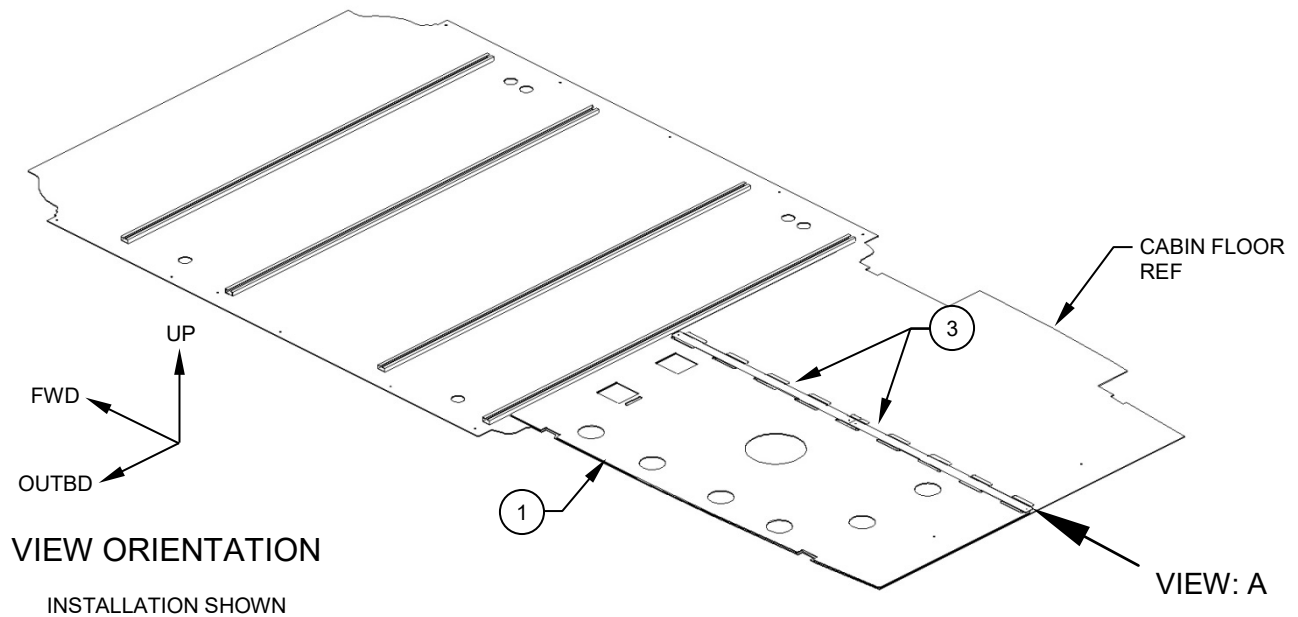

**Figure 2**
2. Remove and retain the two most OUTBD fasteners common to the access panels near the AFT end of the cargo area. Remove and retain fasteners along cargo door sill. Reference Figure 2.